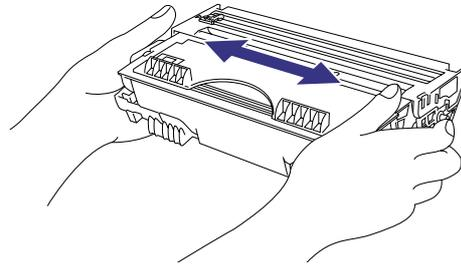

Fig. 2-8
- (1) Open the front cover.
- (2) Unpack the drum unit assembly and rock it from side to side 5 or 6 times to distribute the toner evenly inside the cartridge. (Fig. 2-8)